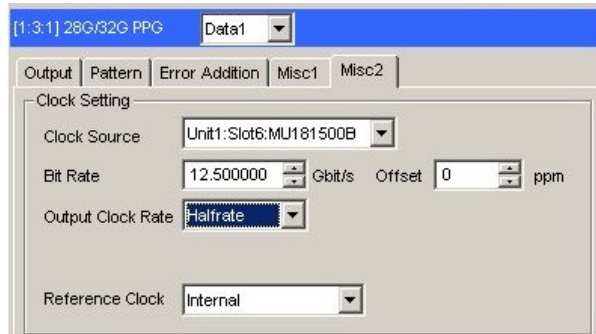

Figure E.5-2 Output Clock Rate Setting on the Misc2 Tab of MU183020A
- 3, 4. Use coaxial cables (applicable part, 0.8 m, K connector) to connect MU183020A's **Data Output1** and **Data Output2** connectors respectively with the **Data Input** connector of each MP1825B No.1 and 2. Then, on the **Misc2** tab of MU183020A, select **Halfrate** in the Output Clock Rate box. (Figure E.5-2)